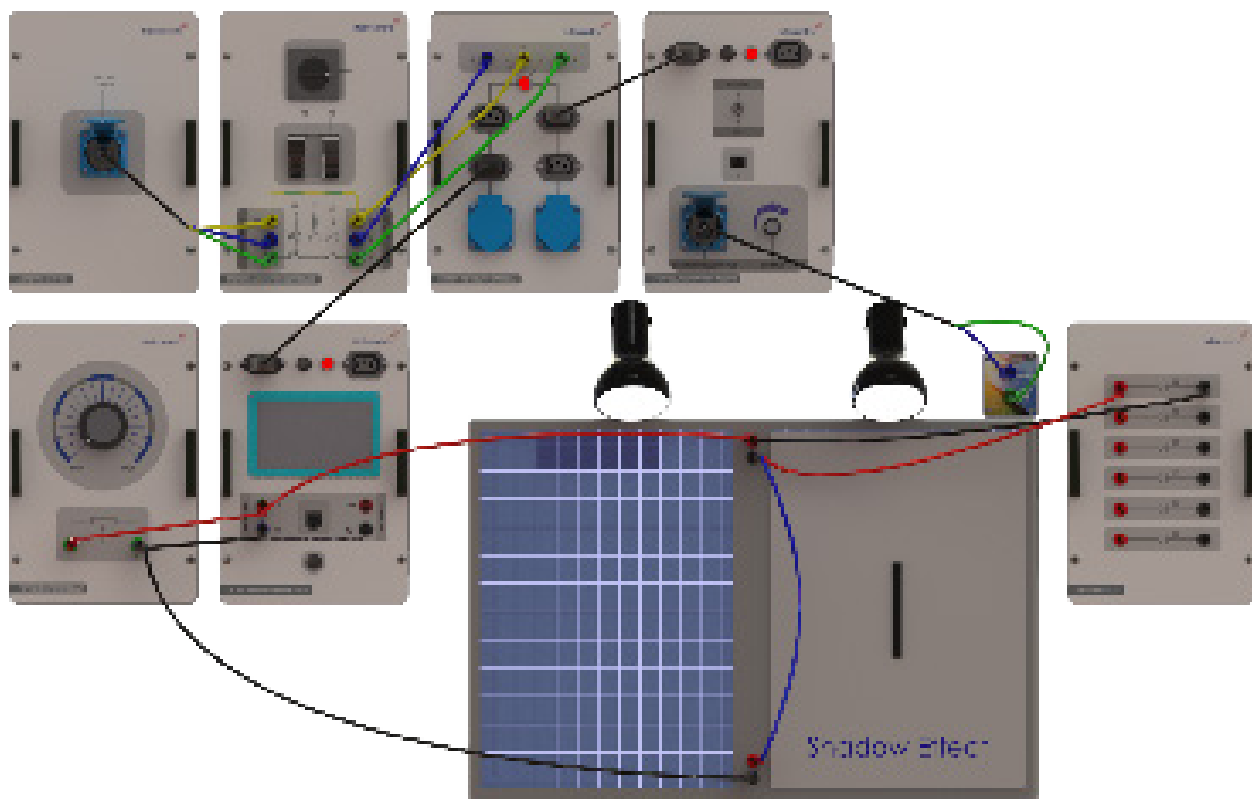

Figure-2
- 6) Use the shadowing device to shadow panel-1 as shown in figure-2. Record in chart-1 the value observed on the voltmeter placed on the AC/DC Measurement Module under this circumstance.